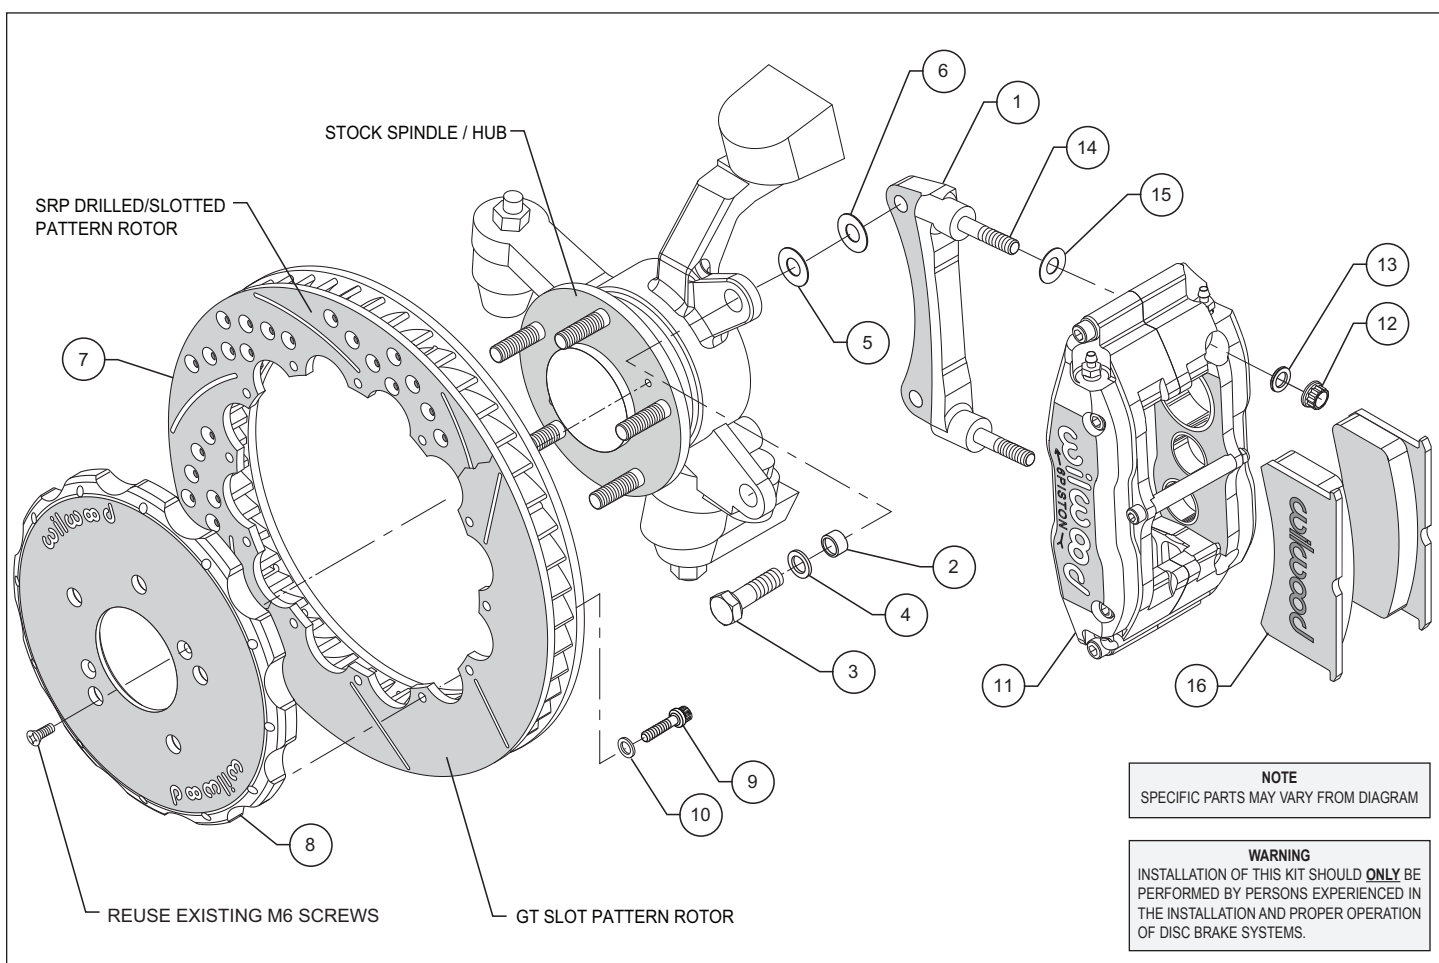

Figure 1. Typical Installation Configuration
- The caliper mounting bracket assembly (1) should be installed first with clean, dry threads on the mounting bolts. Install the bracket on the back side of the spindle by sliding bolt (3) through washer (4), and through sleeve (2) which will be inserted into the spindle "ears" from the front side of spindle. Place shim washers (5 and 6) between the bracket (1) and the spindle (see Figure 1). The bracket must tighten squarely against the side of the spindle body. Inspect for interference from casting irregularities, machining ridges, burrs, etc. Use one thin shim (5 and 6) between the bracket (1) and spindle during initial trial fitting.